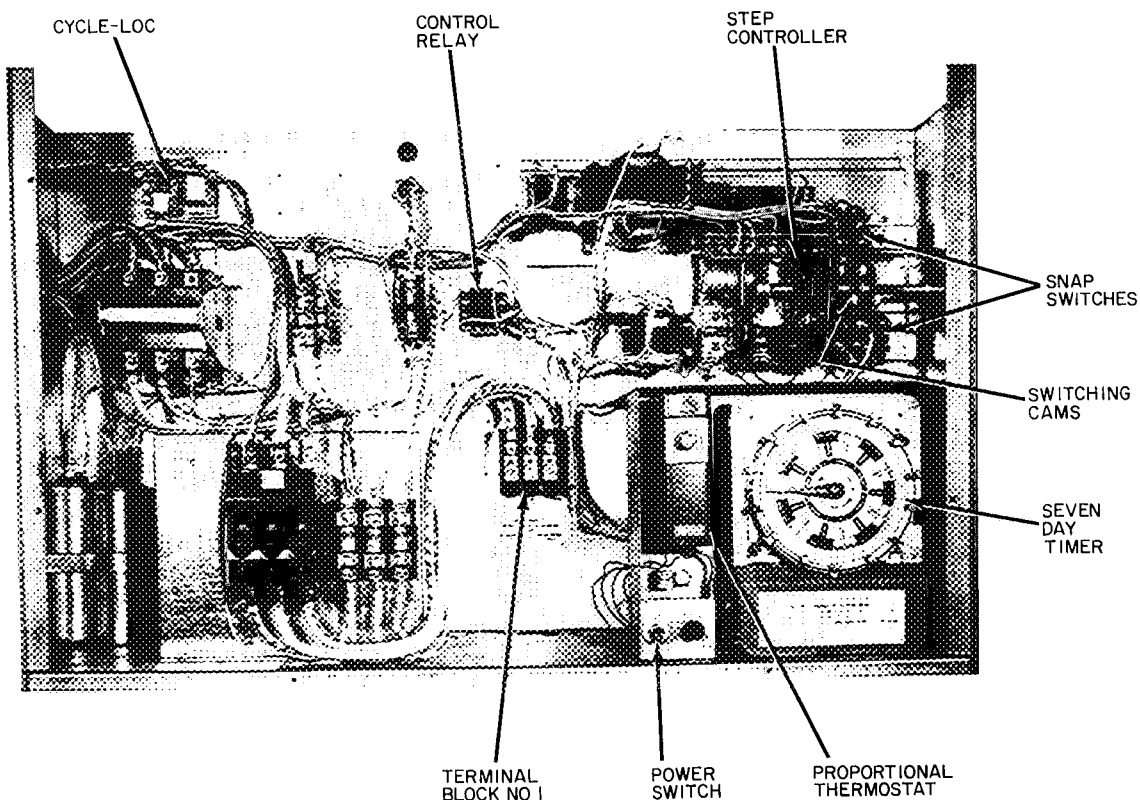

Fig. 18 — Control Panel, Variable Volume Limits
Variable Volume Units — Units suitable for use with variable volume air handling systems are equipped with 2 electric unloaders on the compressor. The control panel for these units (Fig. 18) consists of a step controller, a proportional thermostat, a 7-day timer and a power switch.
1. On the timer dial face (Fig. 18), loosen the thumb-screws which position the system ON and OFF trippers.
PROPORTIONAL THERMOSTAT — The proportional thermostat, Fig. 18, monitors temperature of the conditioned air leaving unit. On signal from the thermostat, sequence motor operates cam switches to load or unload compressor to maintain thermostat setting. Thermostat is factory set at 50 F \pm 6 F but may be reset between 0° F and 100 F as follows: